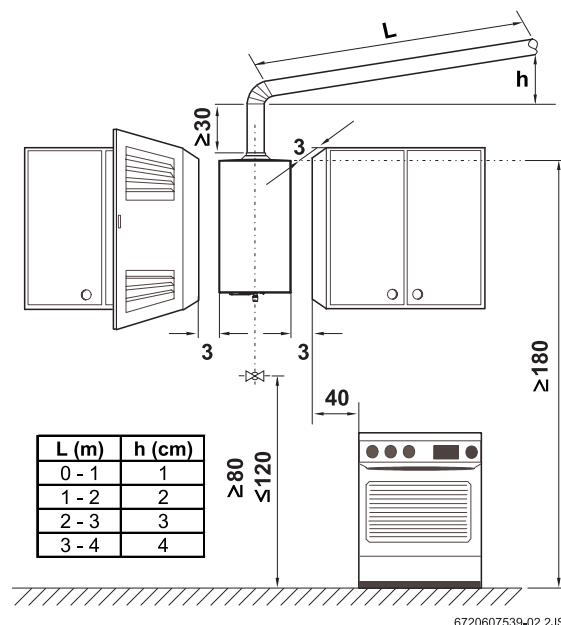

Fig. 4 Minimum clearances
- Respect the minimum installation clearances indicated in Fig. 4.